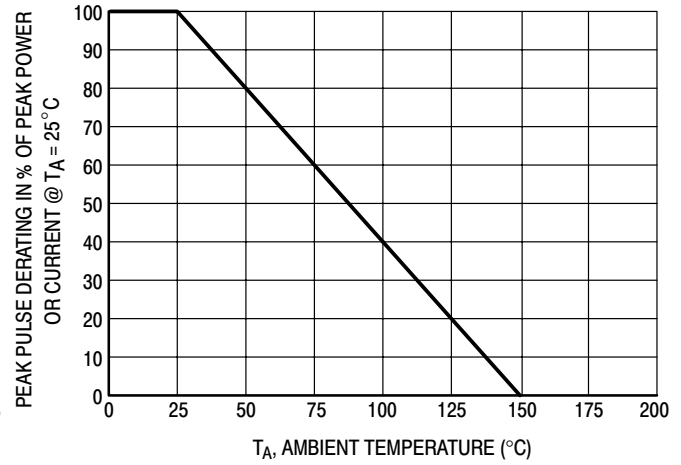
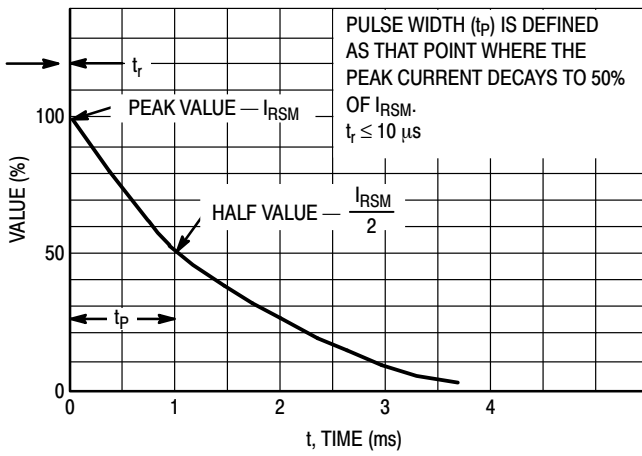
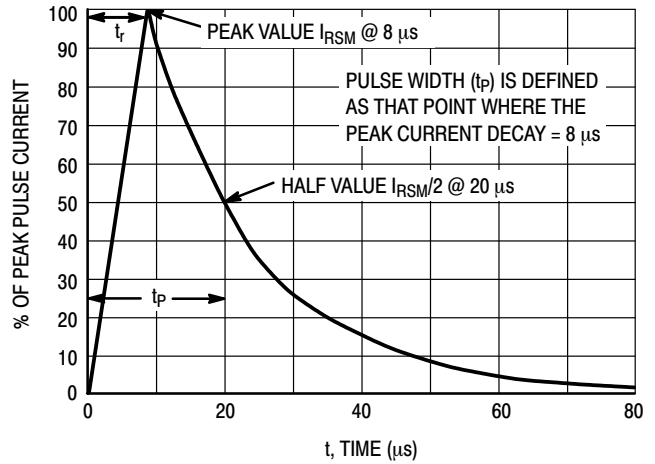

Figure 4. Pulse Derating Curve
Figure 5. $10 \times 1000 \mu\text{s}$ Pulse Waveform
Figure 6. $8 \times 20 \mu\text{s}$ Pulse Waveform
1. Nonrepetitive current pulse per Figure 5 and derated above $T_A = 25^\circ\text{C}$ per Figure 4
2. Nonrepetitive current pulse per Figure 6 and derated above $T_A = 25^\circ\text{C}$ per Figure 4
7. Surge current waveform per Figure 5 and derate per Figure 4